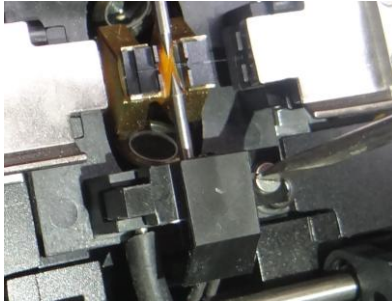

Figure 5.5
2. Loosen setscrews of electrodes cover and remove the electrodes cover, as shown in Figure 5.5